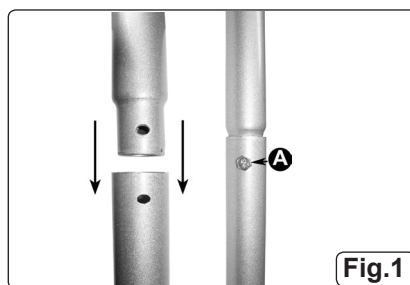

Fig.1
- 3.1.2 Insert the upper handle into the lower handle. Secure the two pieces together with the bolt (A). (Fig.1).